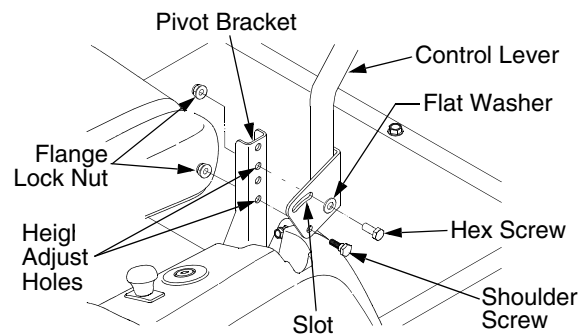

Figure 21
- While supporting the control lever to keep it from falling, remove the hex insert flange lock nut and shoulder screw from the bottom of the control lever and pivot bracket. Refer to Figure 21.
If not already loose, loosen the flange lock nut and rotate the control lever either forward or rearward to the desired position. See Figure 21.